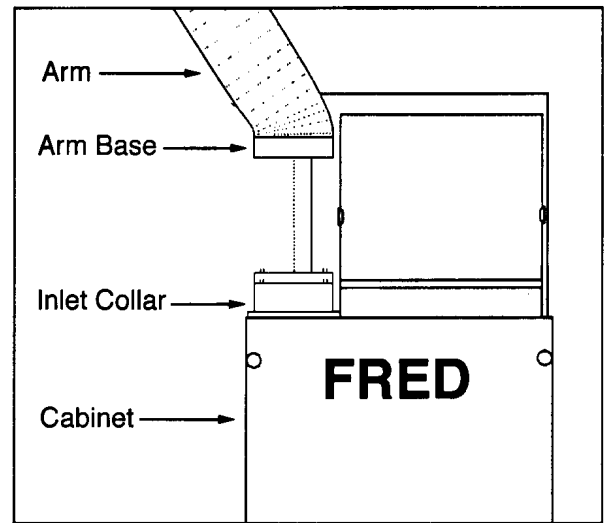

Figure 1 - Capture Arm Installation
- Install capture arm on unit by aligning bolt hole pattern on inlet collar. Ensure that rubber seal is correctly positioned sealing the joint between the inlet collar and arm base (see Fig. 1)